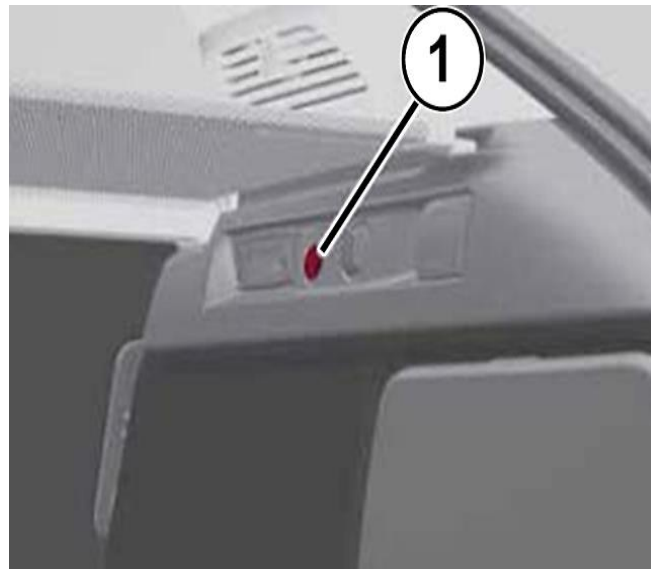

Figure 10 – Initialize Electric Tow Hook
- Press the button on the right luggage compartment trim for at least 10 seconds. The LED will turn on continuously to confirm that the initialization has taken place (Figure 10).